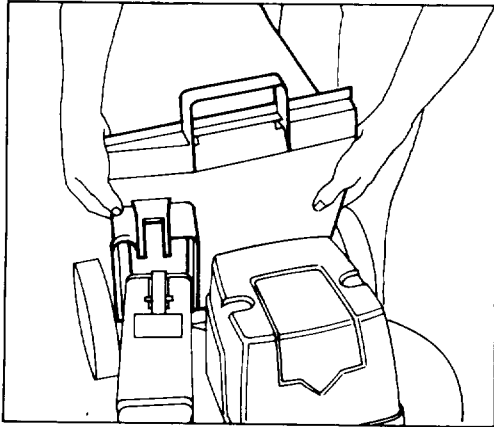

Figure 10
3. **INSTALLING BAG** (Fig. 10)—Hold front of bag frame and bag door together. Then place opening in bag door against flanges on rear chute and slide bag door down.